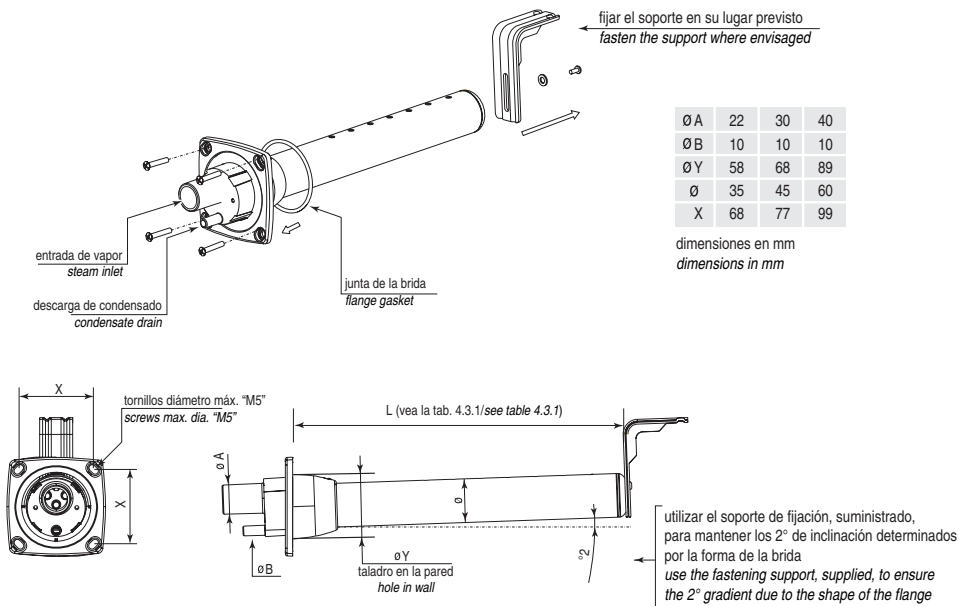

Fig. 4.3.1
Figures 4.3.1 and 4.3.2 provide the dimensions of the CAREL distributors, while table 4.3.1 specifies the minimum number and the model of the distributor recommended for the type of humidifier used.
- practicando una serie de taladros en la pared del conducto según la plantilla de taladros indicada en la Fig.: 4.3.1;
- making a series of holes in the wall of the duct according to the drilling template indicated in Figs.: 4.3.1;